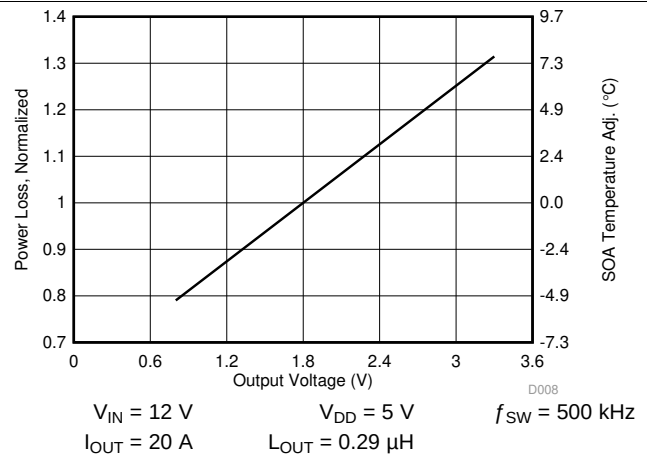

Figure 8. Normalized Power Loss vs Output Voltage
- Normalized power loss for output voltage $\approx$ 0.93 (Figure 8)
- SOA adjustment for output voltage $\approx$ 1°C (Figure 8)